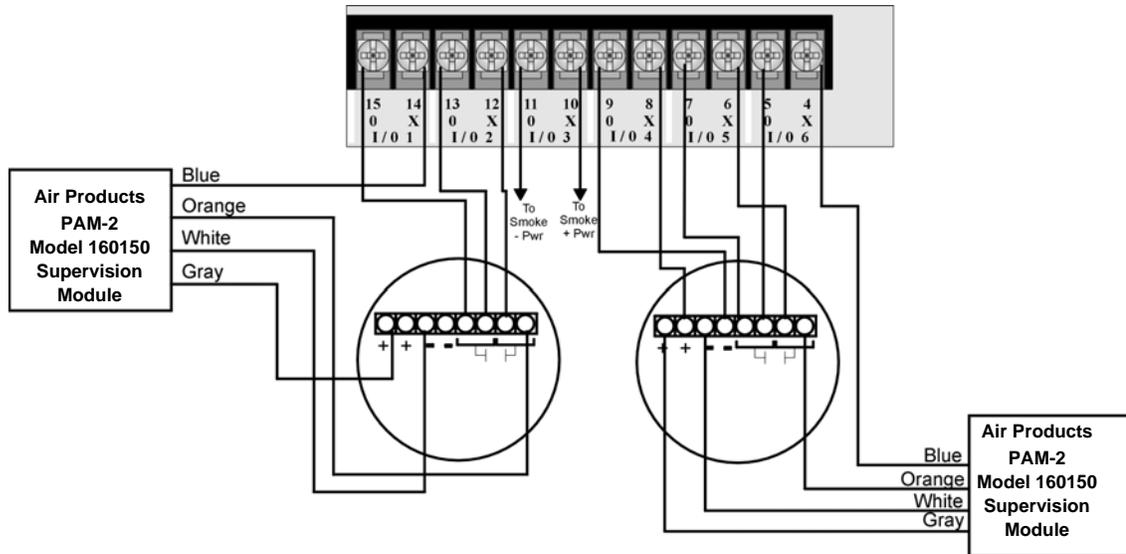

Figure 3.15 Class A 4-Wire Smoke Detector Connections
Figure 3.15 illustrates how to install 4-wire Class A detectors.
- Smoke power is supplied to each Class A loop as shown in Figure 3.15.
NOTE: In programming any point that uses multiple I/O circuits are always referred to as the lowest I/O circuit number used. For example, Figure 3.15 uses I/O circuits 1, 2, 3 together and 4, 5, 6 together. In programming (1, 2, 3) would be referred to as point 1, and (4, 5, 6) would be referred to as point 4.